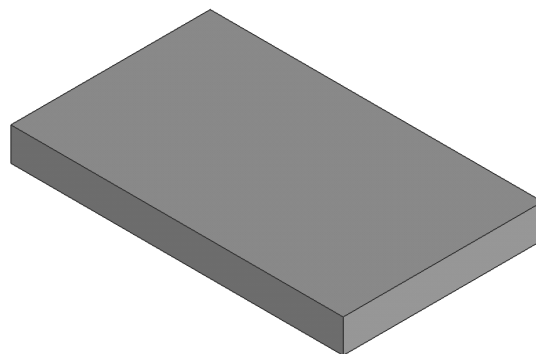

Figure 8-49 Base feature of the model
5. Choose the **OK** button to create the base feature. Turn off the display of all the entities, except the base feature. The resulting model is shown in Figure 8-49.